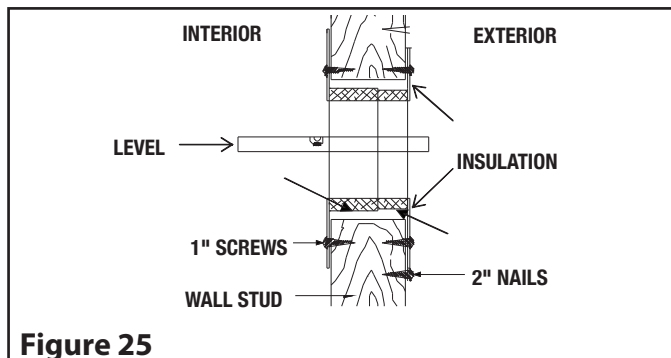

Figure 25
Step 4: Using a level make sure that the hole for the chimney to pass through is horizontal. Screw the outer thimble in place with the provided screws (see Figure 25).